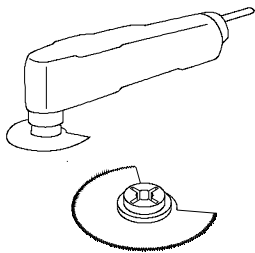
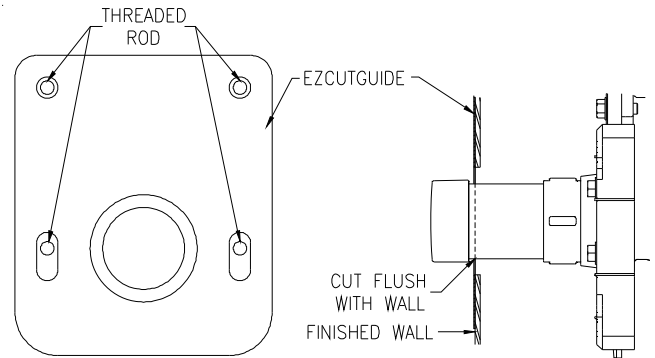

Fig. 16
Fig. 15
- b. EZ-Set™ Coupling – Remove coupling protector. Hang the EZCUTGUIDE (purchased separately) See Fig. 15. Using an oscillating multi-tool with flush cut blade, remove the test cap and excess coupling length. Deburr sharp edges. See Fig. 16